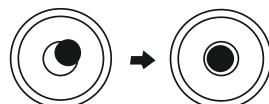

Fig.4
- (4) Turn footscrews and centre the bubble.(Fig.4)